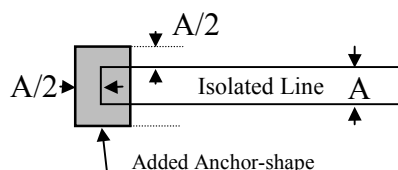

Fig. R1
8. Use anchor at end of isolated long metal lines whenever possible. (The suggested anchor-shape is as the shaded region in Fig. R1)